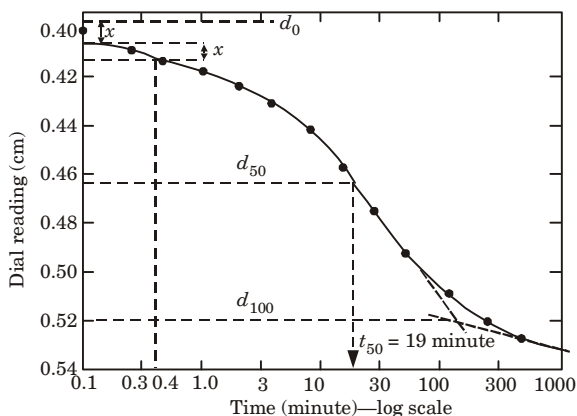

Fig. 3.22.1.
1. The semi-logarithmic plot of dial reading versus time is shown in Fig. 3.22.1.